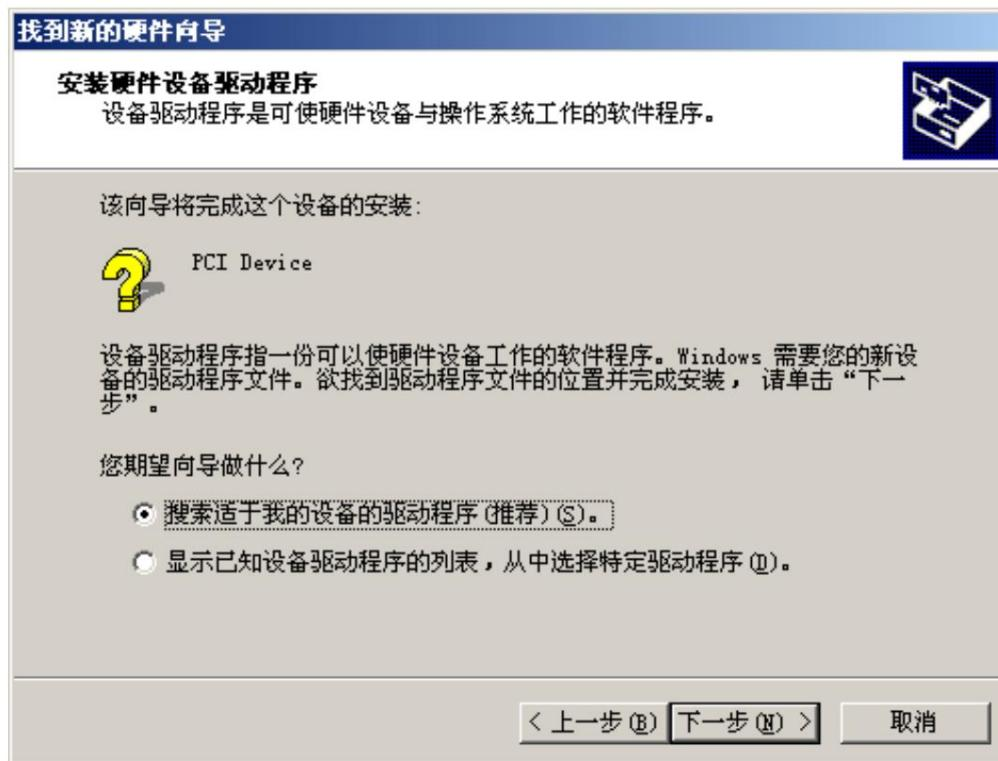

Figure 5-2 Searching for a driver for my device
3. After pressing "Next", the dialog box shown in Figure 5-2 will appear, select "Search for Backup driver (recommended)", press "Next" to continue;